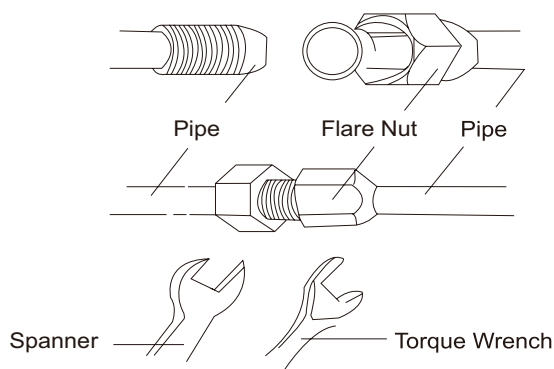

Fig.5
- Refer to Fig.5 for the moments of torque for tightening screws.
- After that, tighten the screw by the torque wrench unit it clatters (as shown in Fig.5).